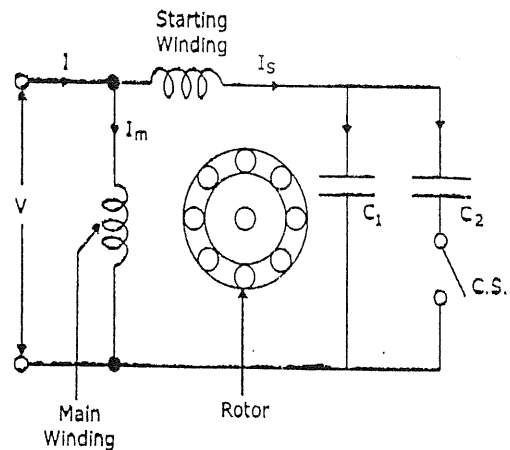

FIG. 4.29 : CAPACITOR START CAPACITOR RUN INDUCTION MOTOR
- As shown in Fig. 4.29, the two windings, main winding and starting winding are connected in parallel across the supply voltage V .